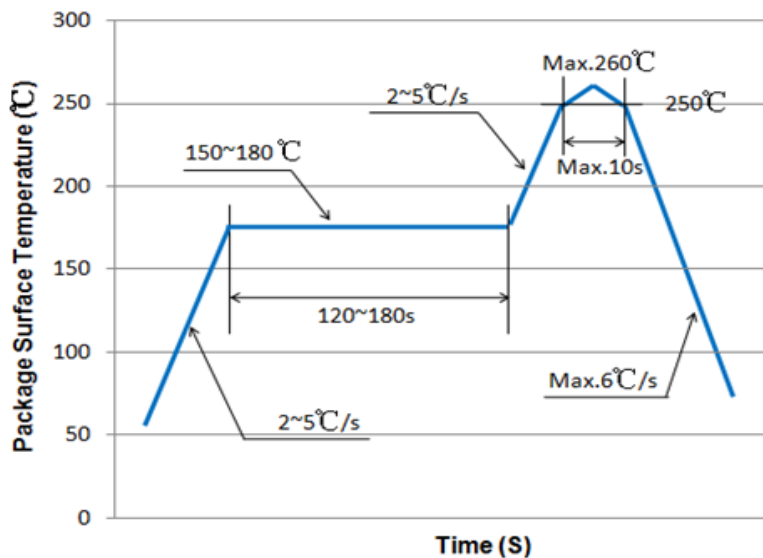

Figure 9 Reflow Profile
- Figure 9 is the reflow profile for Pb free process